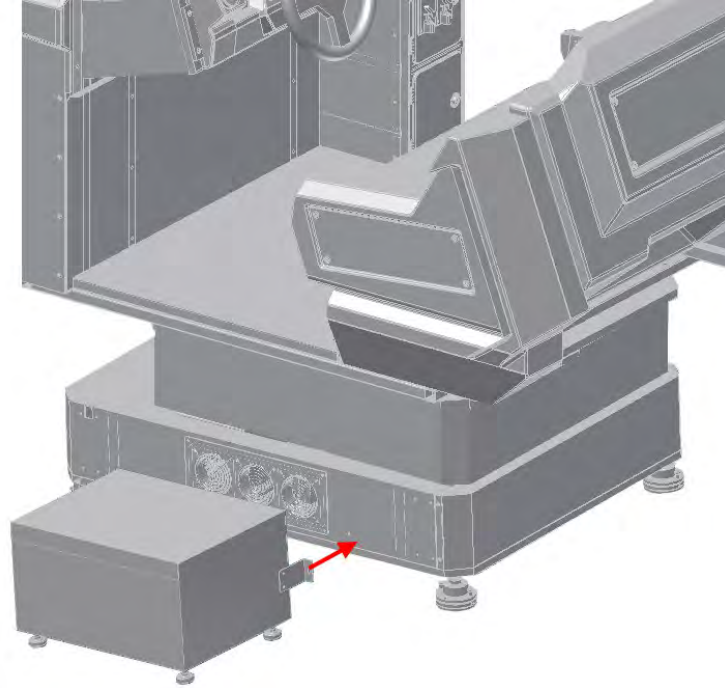

Figure 3 Install Stairway
2. Install the stairway on the side of the chassis with screws (Figure 3).